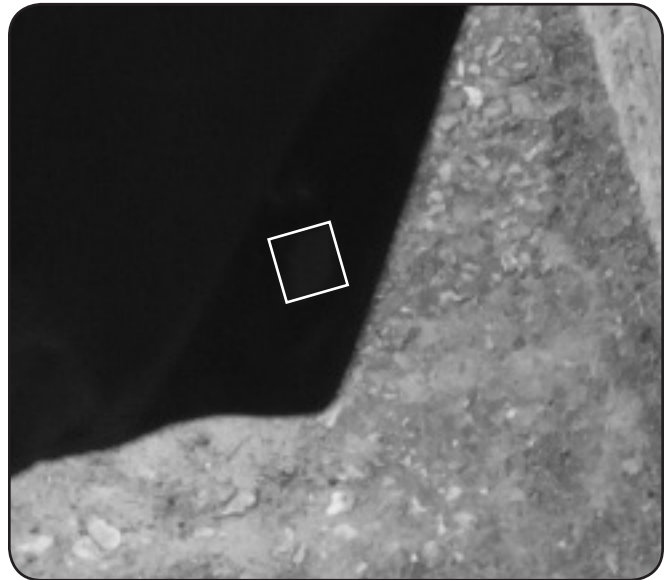

Figure 3-16
- A pair of magnets are on the bottom section of each side of the floor boards. These magnets help hold the lower portion of the snow cab against the floorboards. See Figure 3-16.